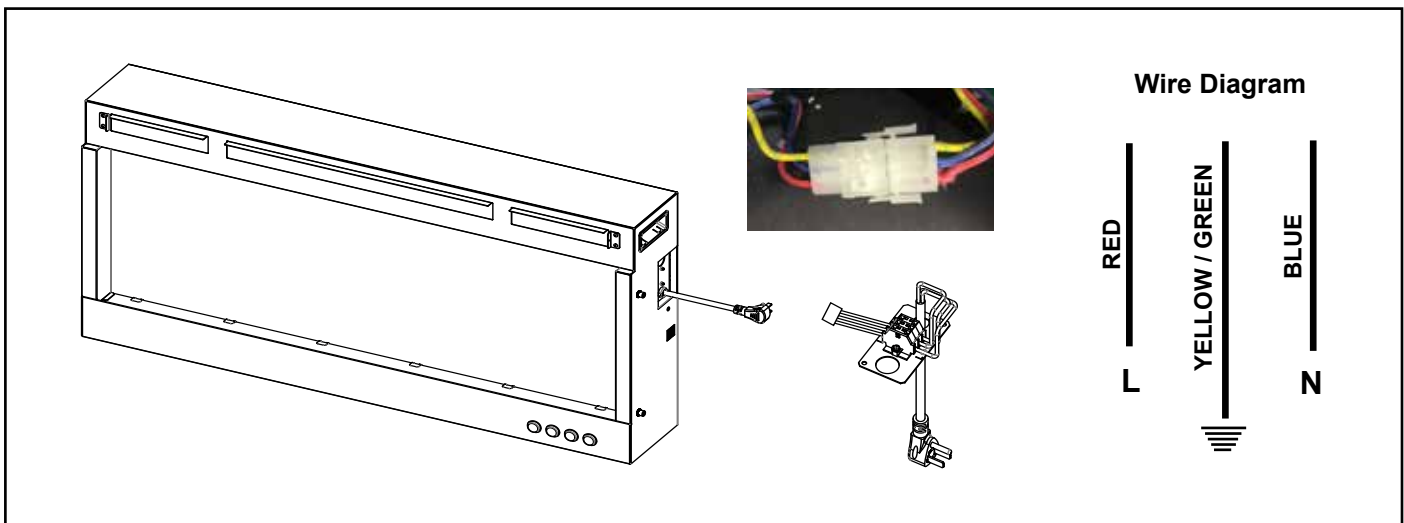

Figure 4.16 Optional Power Cord Assembly
3. Connect the three conductor wire connector to the connector on the block supplied with the power cord kit. See Figure 4.16.